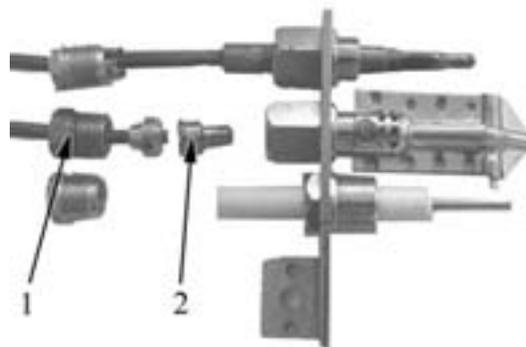

Fig. 11
- Loosen the pilot burner union (pos. 1, fig. 11) and remove the nozzle ("Burner / nozzle specifications and adjustments");